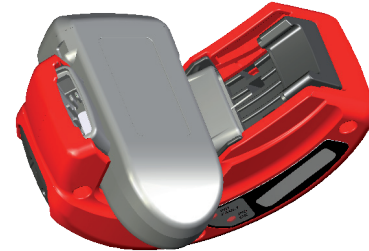

Figure 1
2. With the strap-fitting-lever closed, click the SOLO into the tool. **(Figure 1)**